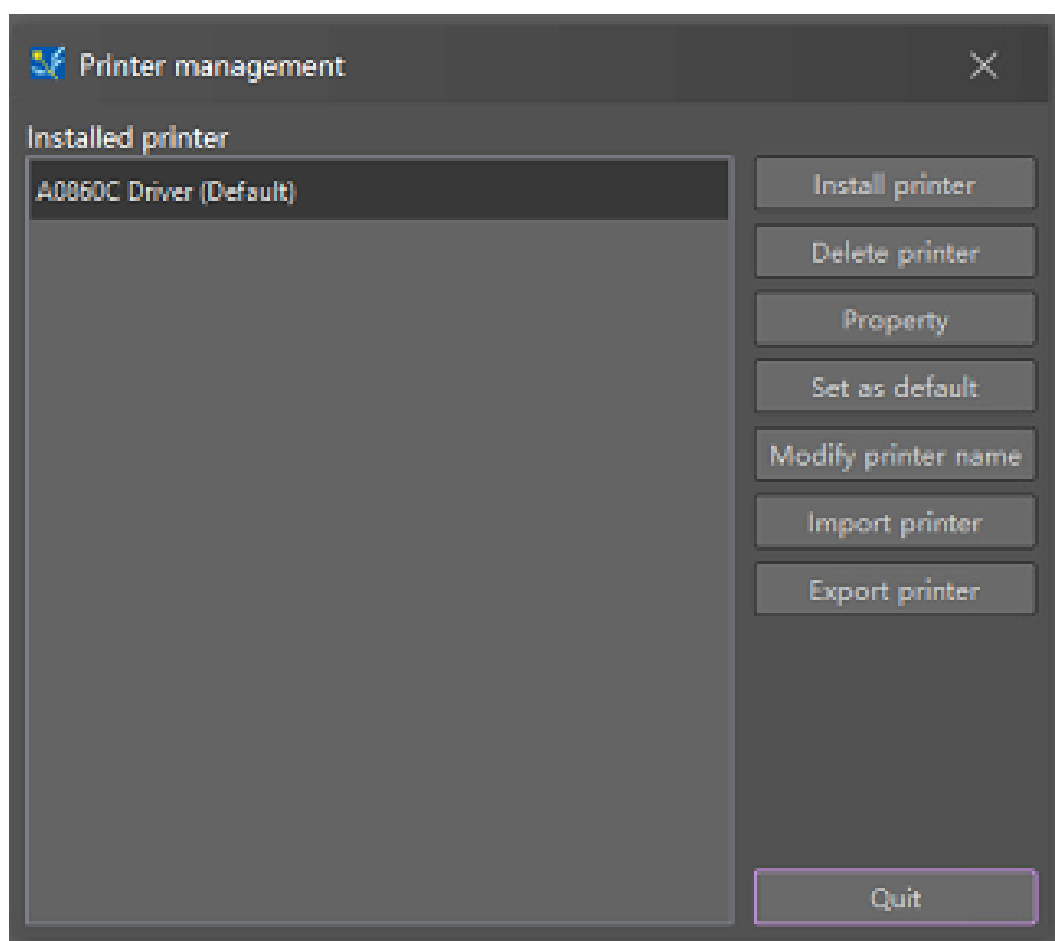

Figure 2.20
- (1)  : RIP
- (2)  : Print
- (3)  : Delete
- (4)  : Move to top
- (5)  : Move up
- (6)  : Move down
- (7)  : Move to bottom
- (8)  : Printer management shown as Figure 2.20